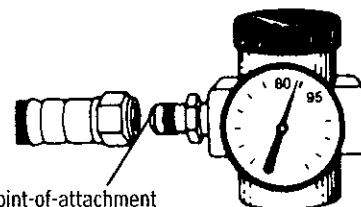

Figure 2
- Adjust the air pressure at the point-of-attachment (Figure 2) to within the approved pressure range. See the **Air Pressure** section on the front page.